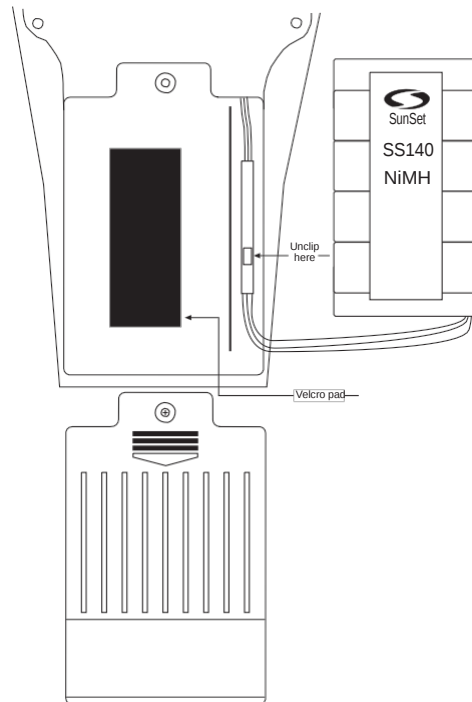

Figure 7 Replacing the Battery Pack
2. Remove the cover retainer screw and push down on the battery cover on the back panel, in the direction indicated by the arrow, to remove the cover, refer to Figure 7.
3. Unclip the battery, as indicated on Figure 7.